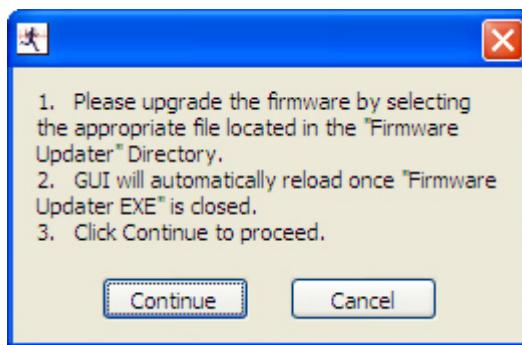

Figure 36. PC Application Firmware Upgrade – 1
- A pop-up window opens up as shown in Figure 36. Follow the instructions to continue to Firmware Upgrade or to cancel the operation.